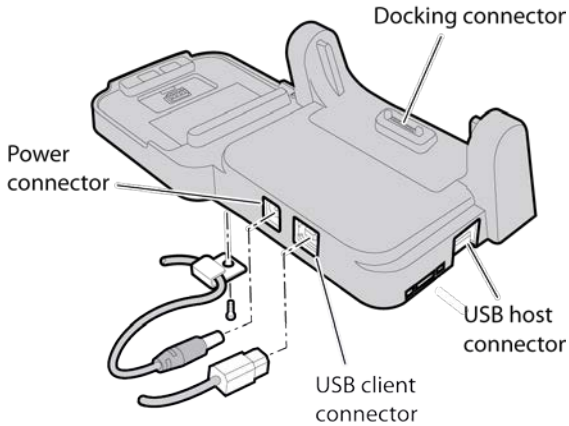

Figure 3. Single Dock Station Rear Panel
1. Connect power supply unit plug to the single dock station jack (Figure 3).